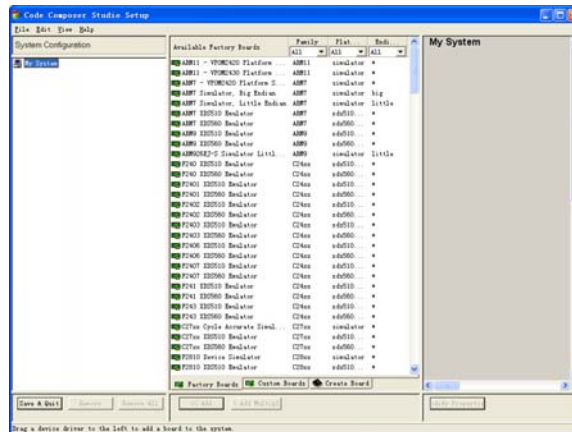
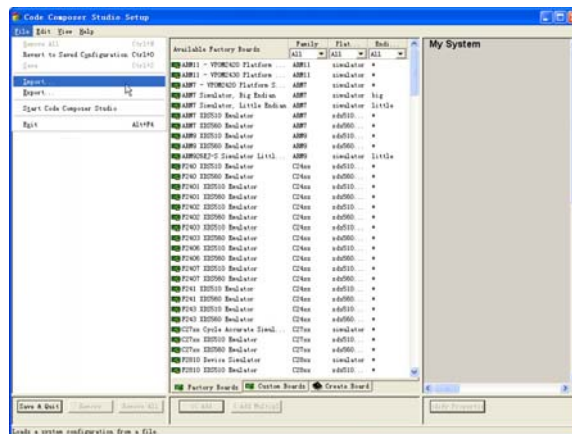
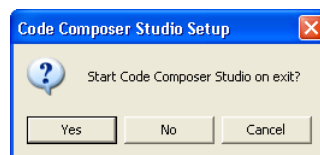

Figure 3.1 CCS3.3 setting interface
Figure 3.2 Import option
Figure 3.10 Choose dialog box
1. Double-click “Setup CCStudio v3.3”, open the CCS3.3 setting interface, as show in Figure 3.1.
2. In Figure 3.1, Click [File] option, the drop-down menu, select [Import], as show in Figure 3.2.
10. When settings are completed, click [Save & Quit] option in Figure 3.1, save and close CCS3.3 setting interface. At this time, system will pop-up dialog box as shown in Figure 3.10. Click [Yes], the system will open CCS3.3 operating environment; Click [No], need to the user open it.